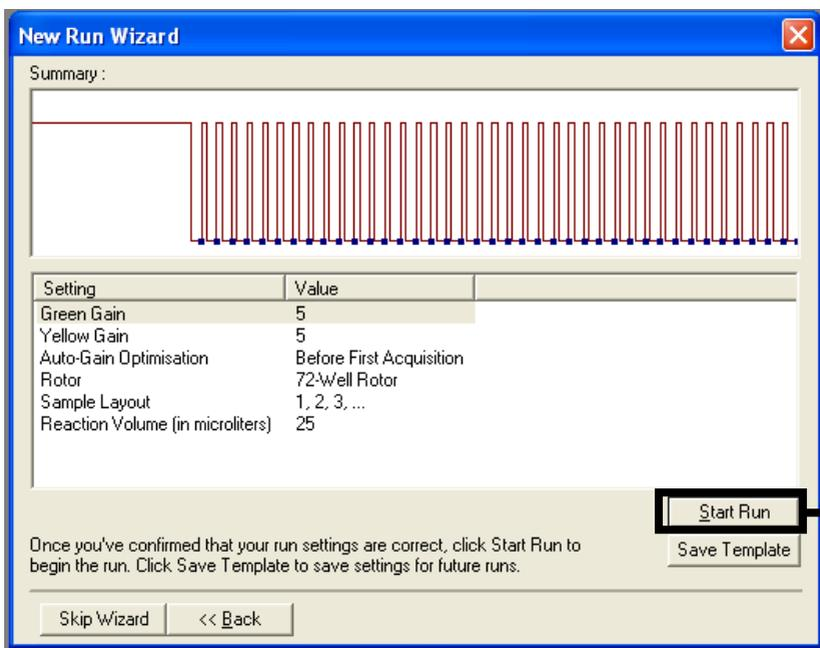

Figure 4. The “New Run Wizard” dialog box. 1 = “Start Run.”
18. Check the summary, and click “Start Run” to save the run file and start the run (Figure 4).